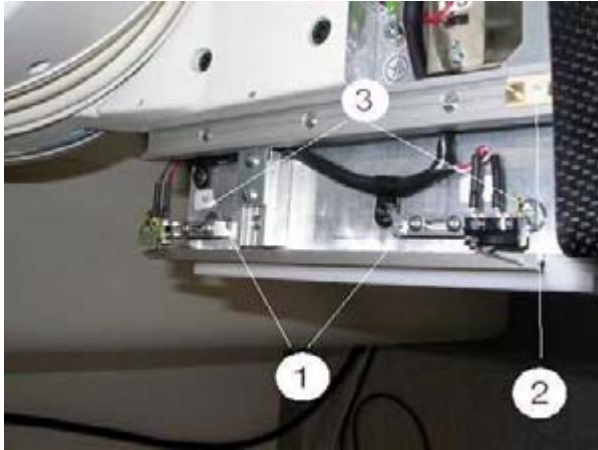

Fig. 4: Remove switches
1. Mark the position where the front and rear carrier brackets (holders) of the magnification table locator (or grid position) micro switches S2 and S3 are fastened to the object table support plate. (Such markings may already have been made at the factory). These micro switches are on the left side of the plate and they can be adjusted only with the magnification table. It is not possible to adjust them if the customer has no such table. Draw lines around both carrier brackets of these switches so they can be fastened back in the same position. (See 1/Fig. 4 / p. 14)).
2. Unscrew and remove the Allen M3 x screws on the carrier brackets (holders) of micro switches; the carrier brackets will loosen. This will allow access to the two Allen screws M5 x (See (3/Fig. 4 / p. 14)) which fix the detector on the left side to its carrier plate on the "flying wing". The two Allen screws M5 x (3/Fig. 6 / p. 15) that fix the detector to its carrier plate on the right side are readily accessible.
5. The way the grid is held on the two longitudinal sliders ((2/Fig. 4 / p. 14) and (2/Fig. 5 / p. 14)) becomes apparent. Remove the grid and store it in a safe place.
11. First, slightly loosen the four Allen screws that hold the detector in place ((3/Fig. 4 / p. 14) and (3/Fig. 6 / p. 15)). Prepare a place to put the detector after removal; be careful not to drop the detector.